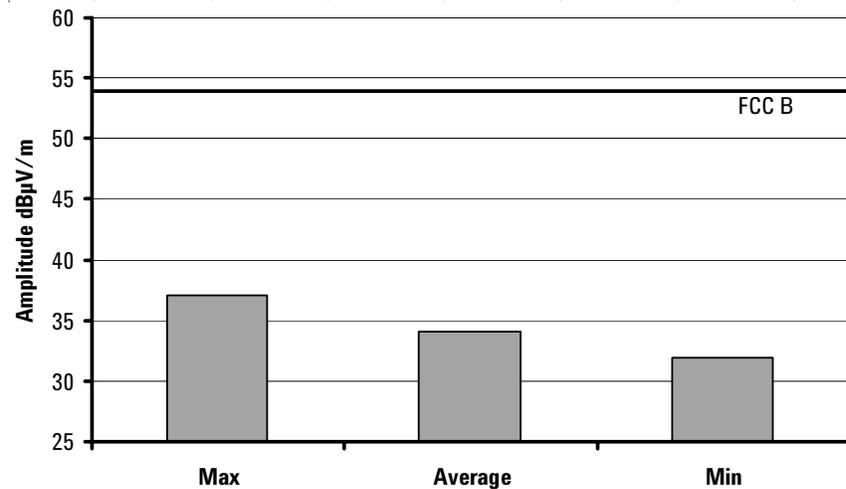

Figure 19. Radiated emissions for HFCT-5942TL/ATL
- HFCT-5942TL/ATL: 7 intermediate reach modules were measured and the maximum emission was 37.1 dB μ V/m at 4.96 GHz (see Figure 19).